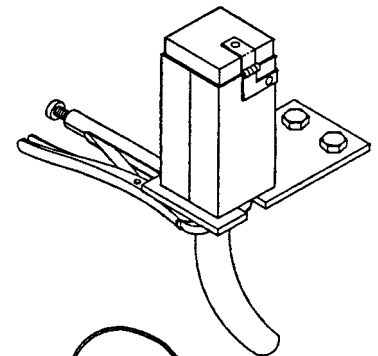

Figure 54
1. Some clamps require a plain solid stud. For these, a casting of CADWELD metal of the correct diameter is made directly to the flexible conductor end. The cable insulation is securely clamped for mechanical support (Figure 54).